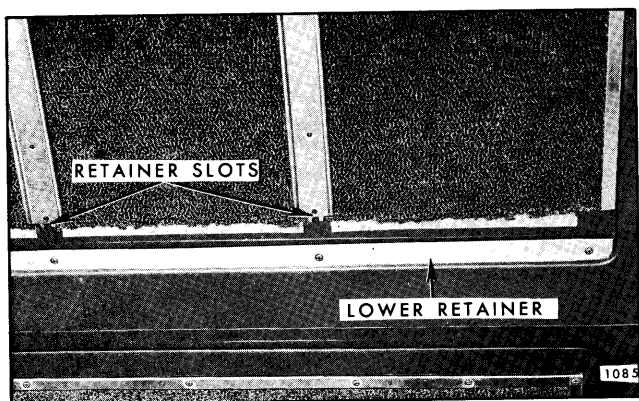

Fig. 9-1—"B" Style Inner Panel Cover
**NOTE:** The bottom retainer screws need not be removed as they secure retainer only. The tail gate inner panel cover is held in the bottom retainer by slots in side and center section metal strips (See Figure 9-1).